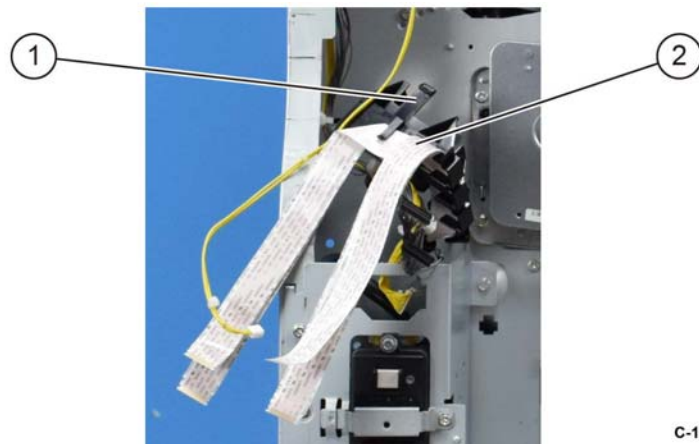

Figure 1 FCC cable guide and cables
8. Release the hook (1) to move the FCC cable guide, FCC cables and wire harness (2), Figure 1.